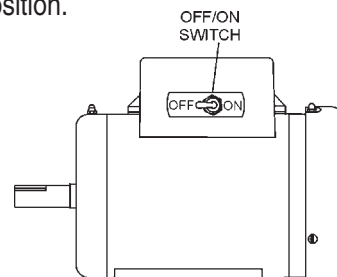

Figure 22. Electric Motor ON/OFF Switch (OFF Position)
1. Place the electric motor's **ON/OFF** switch (Figure 22) in the **OFF** position.